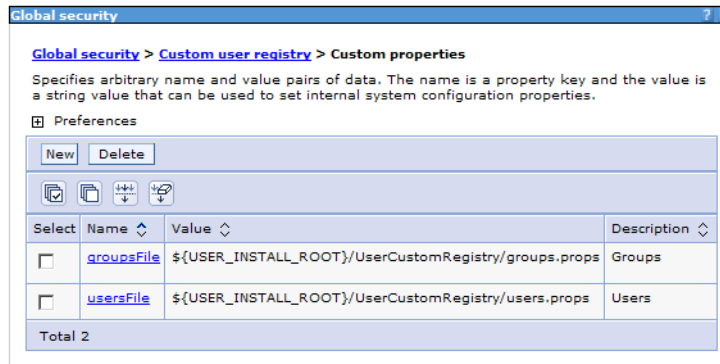

Figure 11-14 Custom registry properties
- Click *Custom properties*. Add two custom properties named `groupsFile` and `usersFile`, matching the code in the `FileRegistrySample` program. The two properties point to our files (Figure 11-14).